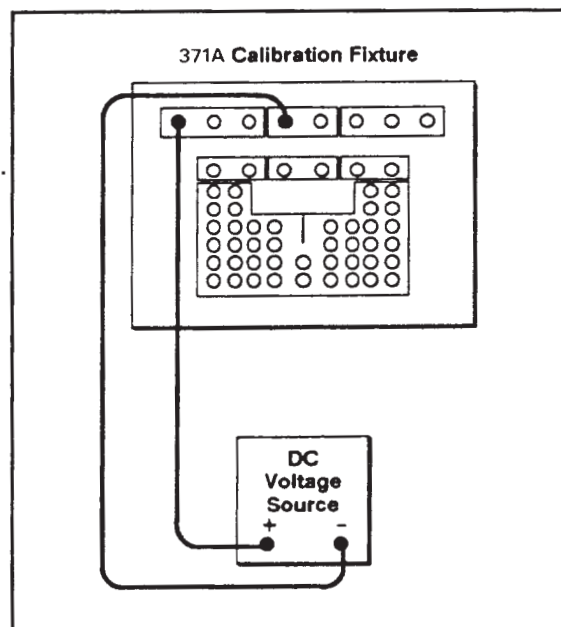

Figure 4-4. Setup for determining low voltage measurement accuracy.
1. Connect the voltage source between the COLLECTOR SUPPLY HIGH VOLTAGE terminal and the COMMON terminal by using two long patch cords as shown in Figure 4-4.